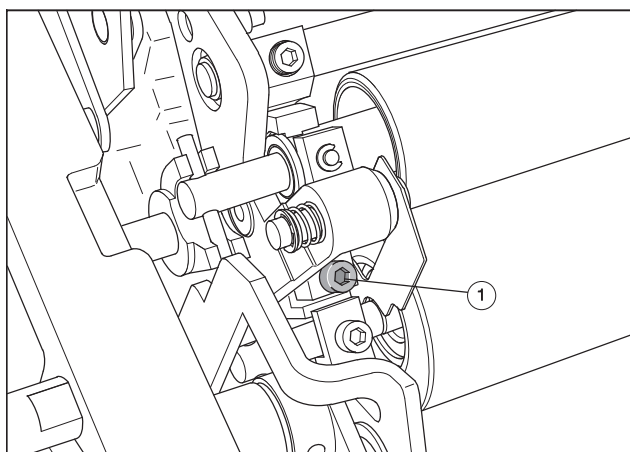

Fig. 36 Adjusting the dampening distributor relative to the plate dampening roller
1. Using the adjusting screws (Fig. 36/1) on D.S. and O.S., set a uniform ink strip width of 2 mm over the entire roller length.